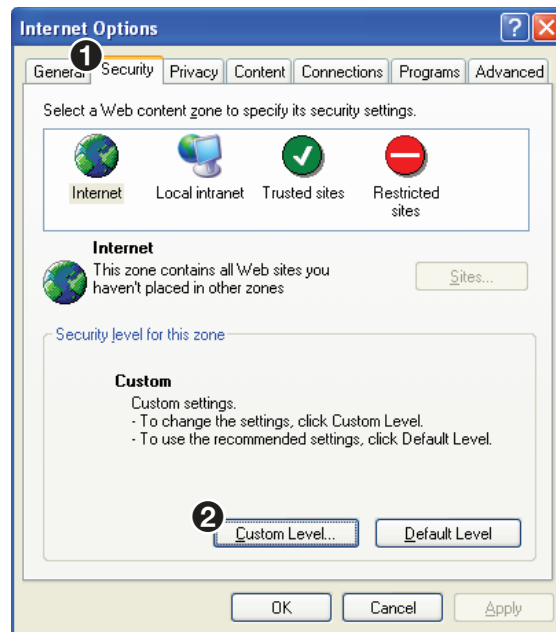

Figure 186. Security Options
3. To enable JavaScript, select the **Security** tab (see figure 186, ①).